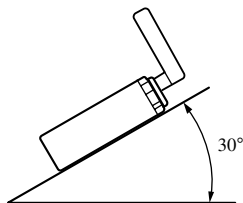

Fig. 9
- If installation angle exceeds  $30^\circ$  from horizontal, the unit might not give its optimum performance. (Fig. 9)